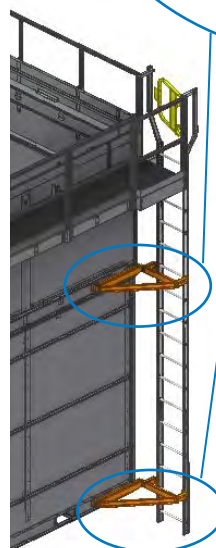

Figure 9. End Ladder Installation
3. Loosely fasten the lower and intermediate appropriate ladder brackets and diagonal braces to the factory installed ladder brackets as shown in **Figure 8, Detail B** and **Figure 9, Detail A**. Check your submittal for the ladder orientation ordered.
Attach the ladder to the platform and fasten the lower and intermediate brackets to the ladder side rails as shown in **Figure 8, Detail B and Figure 9, Detail A.**
5. Loosely fasten the lower and intermediate ladder brackets and diagonal braces to the factory installed ladder brackets on the unit, as shown in **Figure 8, Detail B** and **Figure 9, Detail A**. Check your submittal for the ladder orientation ordered.
7. Attach the ladder to the platform and fasten the lower and intermediate brackets to the ladder side rails as shown in **Figure 8, Detail B** and **Figure 9, Detail A**.